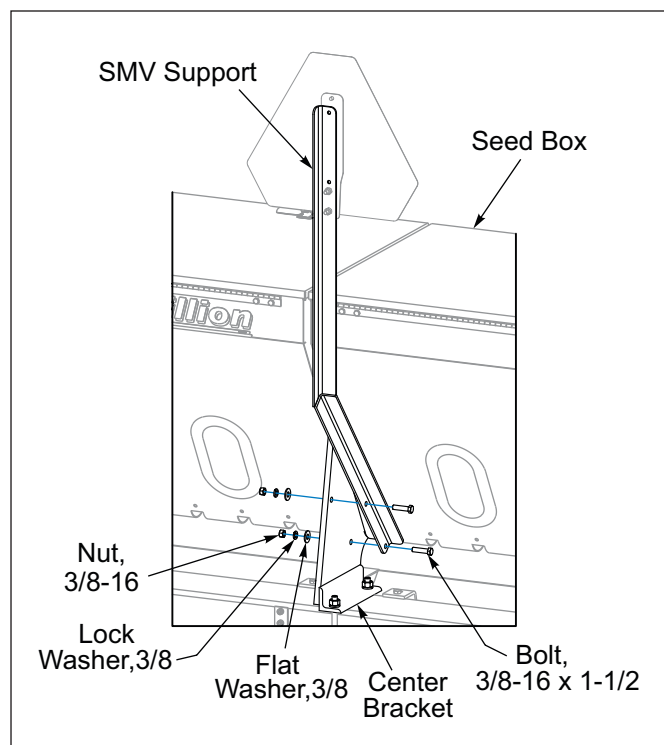

Figure 2-5: SMV Mount
5. Install SMV Support to Seed Box Center Bracket with 3/8-16 x 1-1/2 Bolts and Locknuts. **See Figure 2-5.**